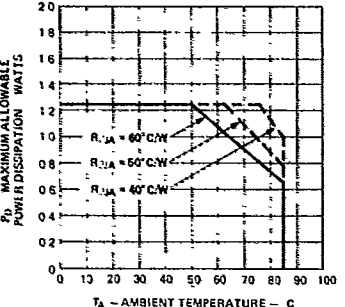

Figure 2. Maximum Allowable Power Dissipation vs. Temperature
- 2 The device should be derated linearly above 50°C at 16.7 mW/°C. This derating is based on a device mounted in a socket having a thermal resistance from case to ambient at 35°C/W per device. See Figure 2 for power deratings based on a lower thermal resistance.
The HDSP-2000/-2001/-2002/-2003 are available in standard ceramic dual-in-line packages. They are designed for plugging into sockets or soldering into PC boards. The packages may be horizontally or vertically stacked for character arrays of any desired size. Full power operation $V_{CC} = 5.25V$, $V_B = 2.4V$, $V_{COL} = 3.5V$ with worst case thermal resistance from IC junction to ambient of $60^\circ C/watt/device$ is possible up to ambient temperature of $50^\circ C$. For operation above $50^\circ C$, the maximum device dissipation should be derated linearly at $16.7 mW/^\circ C$ (see Figure 2.). With an improved thermal design, operation at higher ambient temperatures without derating is possible.